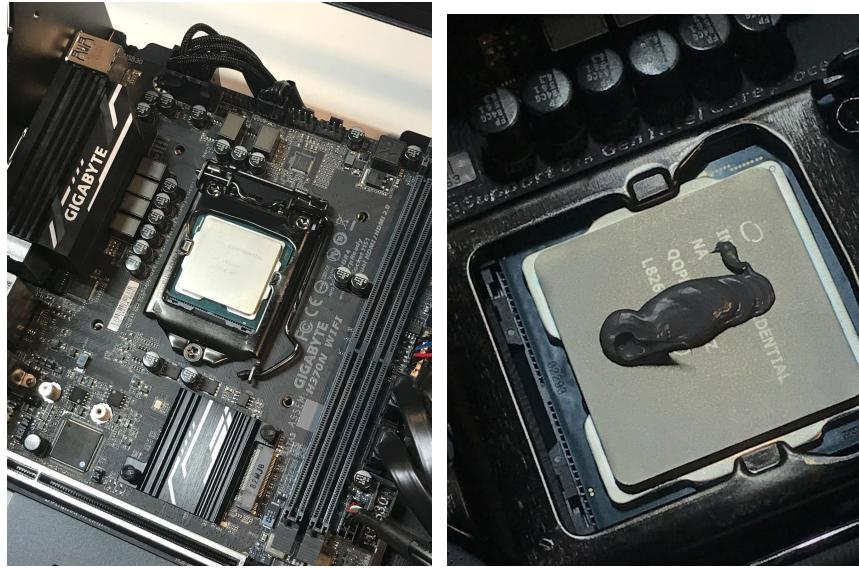

Fig. 37: A cleaned CPU core (left), reapplied Thermal paste on the core (right).
2. Once the Heat Sink and CPU core are free of old Thermal Paste, apply new paste in a line down the middle of the CPU core (fig. 37).
4. Re-fasten the four (4) screws on the Heat Sink. In fastening the screws, partially tighten them one at a time, and move diagonally to the opposite corner. For example, tighten the top-left screw halfway, then move to the bottom right, and tighten that halfway, and so on. This ensures even pressure between the brackets and the motherboard.